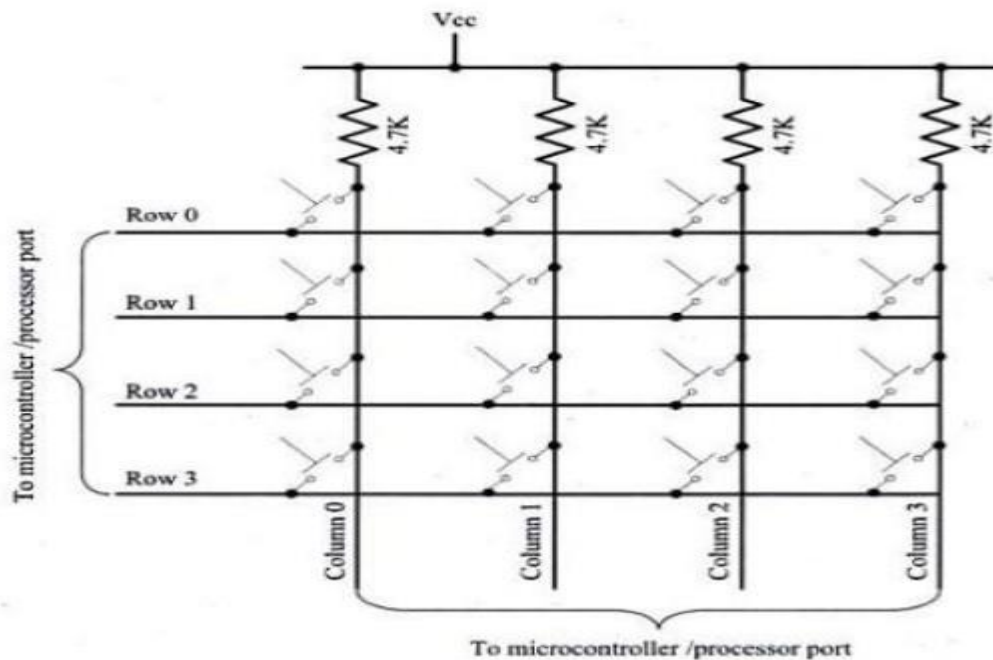

Fig. 3.8: Matrix Keyboard Interfacing
- Figure 3.8 illustrates the connection of keys in a matrix keyboard.